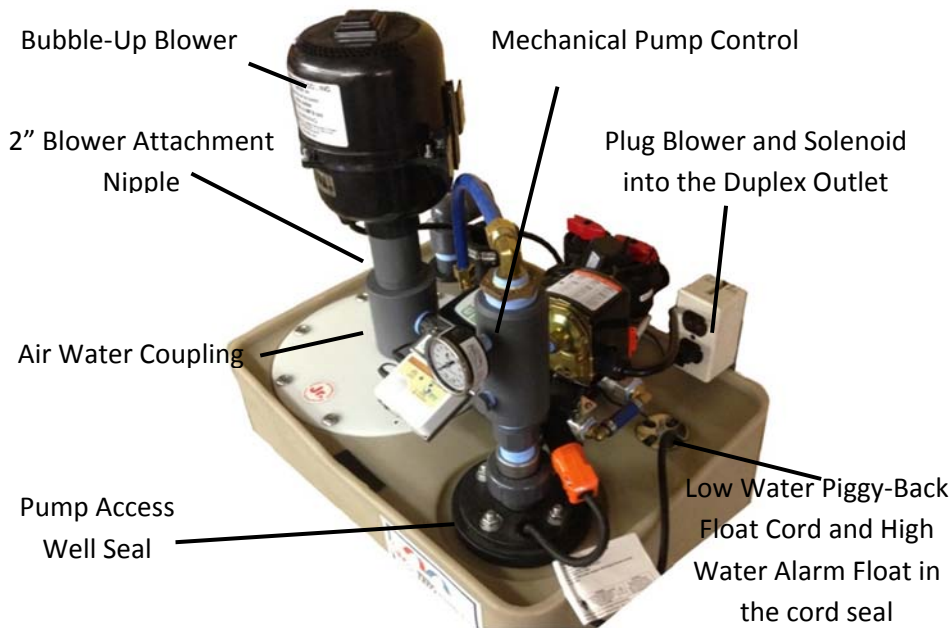

Figure 6 - Installation Points
5. Depress the high water alarm float so it is flush with the rubber cord seal. (Figure 6)
12. Pour one ounce of bleach into the blower attachment nipple to disinfect the unit. See Figure 6 for location of blower attachment nipple.
14. Plug in the following cords. Refer to figures 6, 7, & 8.
Note: Water Sensor Terminal Block Connection: Connect the water alarm float wire, water alarm control (figure 6), and water alarm sensor wires to the terminal block (The terminal block is located next to the air vent, figure 7). Connect one wire to the black connection of the terminal block and the other wire to the red connection of the terminal block. It is very important that this is a good connection.
7. Undo the water inlet line at the point where it meets the air-water coupling below the blower. See figure 6.
5. Loosen the 4 nuts on the pump access seal. See figure 6. Do not remove the top nuts so that the bolts do not fall into Bubble-Up® Jr Interactive™ main water tank. Note that the direction of the float switch cord is towards the air-water coupling so that it can be re-installed in the same position.
The back of this manual shows the replacement parts on a Bubble-Up® Jr Interactive™. Many are shown in Figures 6 through 14. Figures 13 and 14 show the parts included in the Retrofit Kit. This kit is used to upgrade a Bubble-Up® Jr XP to a Bubble-Up® Jr Interactive™. See dealer for more information regarding this Retrofit Kit. Here are some points to keep in mind when replacing parts: